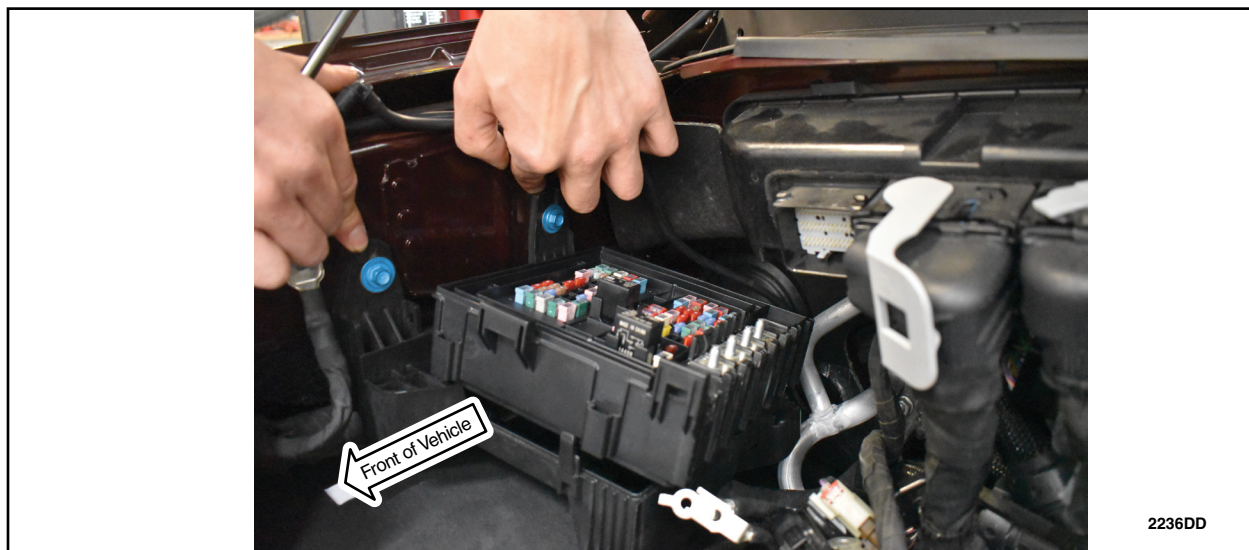

FIGURE 10
10. Remove the fasteners for the bottom cover of the BJB. See Figure 10.